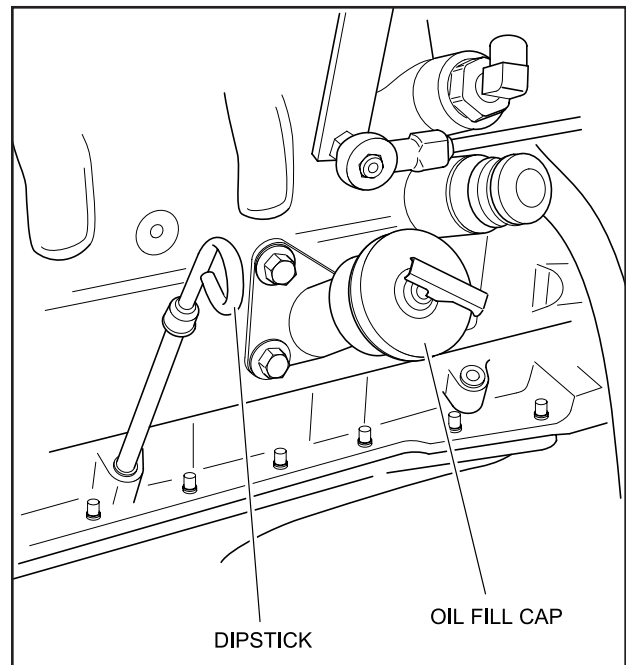

FIGURE 4-1. ENGINE OIL DIPSTICK AND FILL CAP
2. To check the engine oil, pull dipstick out of the engine and check that oil level is near the full mark on the dipstick (see Figure 4-1). If oil level is low add engine oil.